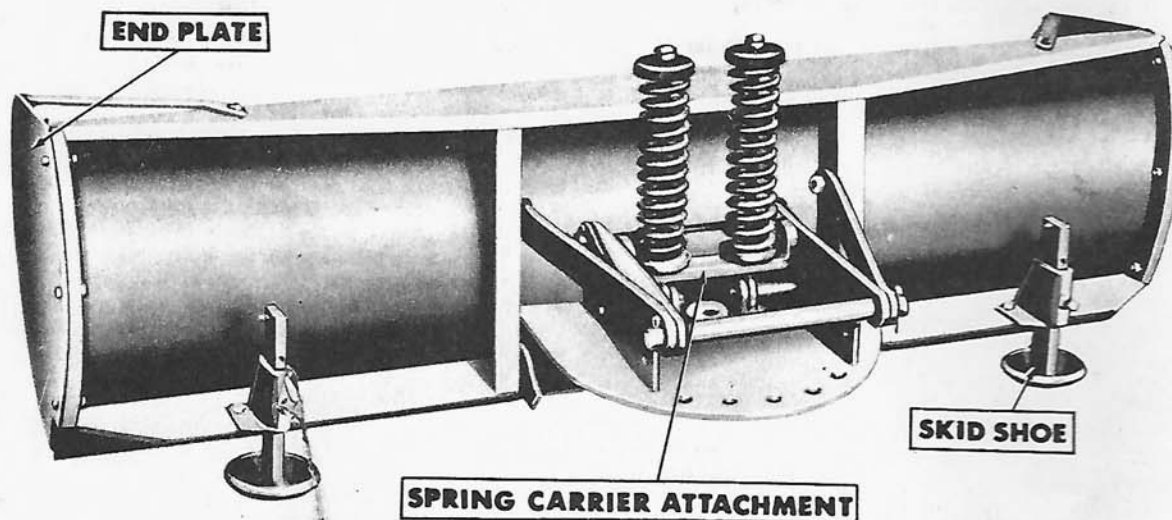

Figure 6
Figure 6 shows three attachments available at extra cost for use with the Angle Dozer, Model 19-2. Since the Spring Carrier Attachment is standard equipment on the Blade Snow Plow, Model 19-3, only two of the attachments shown would be used with this blade.
**Skid Shoes:** The Skid Shoe and Bracket Assembly, Part No. 190033, shown installed in Figure 6, can be used on either the Angle Dozer or Blade Snow Plow. These assemblies are supplied with the bolts, pins, washers and nuts necessary for attaching to the blade. The Skid Shoes are adjusted by means of a set screw and serve to hold the cutting lip of the blade at the desired height for cleaning obstructions or leveling operations in loose soil.
The End Plate Assembly, Part No. 190055, is shown installed on the Angle Dozer in Figure 6. These plates used on either blade type are particularly helpful in moving material where end spilling is not desired. The end plates aid in controlling and handling of greater material quantities. Normally when end plates are used, the blade is not angled.
**Spring Carrier Assembly:** The Spring Carrier Assembly, Part No. 190166, is available as extra equipment for use on the Model 19-2 Angle Dozer and is shown installed in Figure 6. With the Spring Carrier Attach-